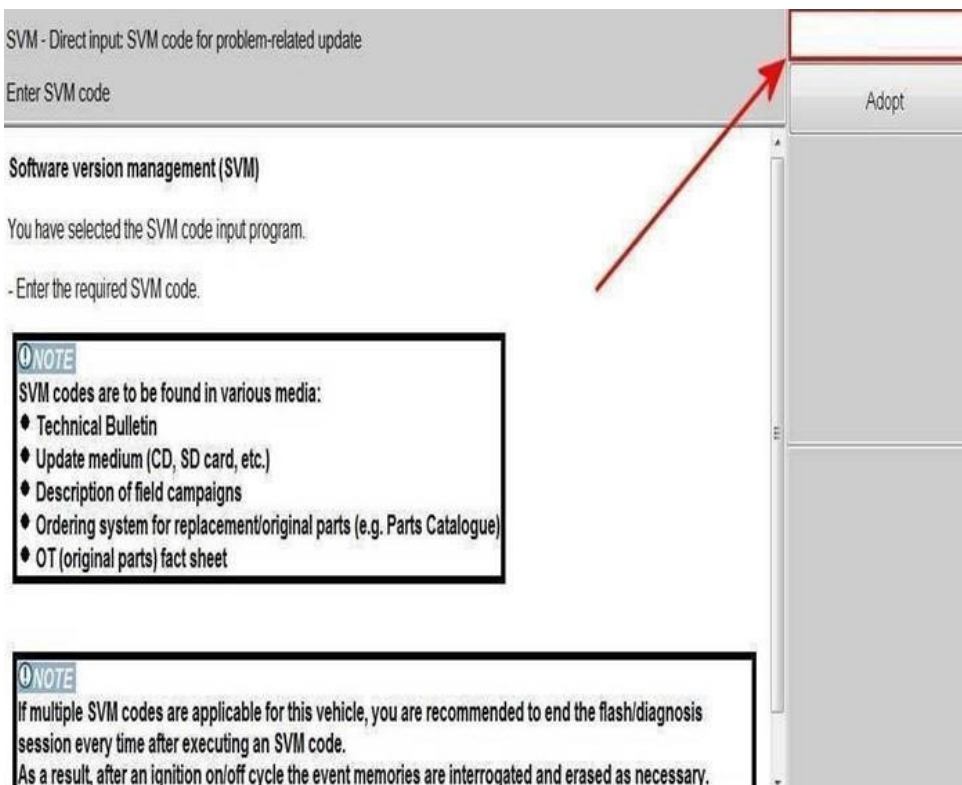

Figure 3
4) On the next screen enter the SVM code 3706DJWPT01 (Figure 3)